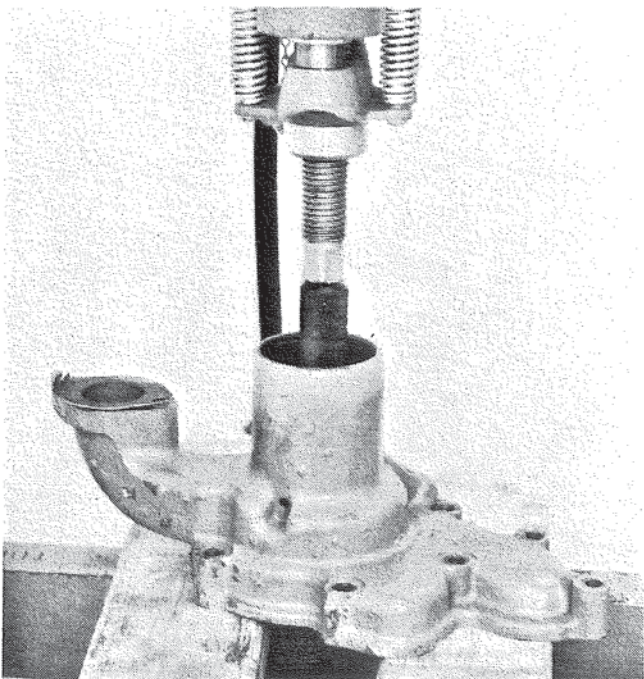

Figure 7. Removing Mechanical Seal.
8. Press mechanical seal from body using proper tool. Figure 7.